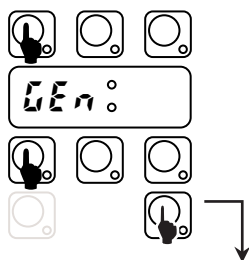

Fig. 17 Enter into User Mode (press for 5 sec)..
- Enter into the USER SETTING mode by pressing and hold down ON/OFF and CYCLE_1 keys for at least **five seconds** the display shows $\zeta E n$ (Figure 17);